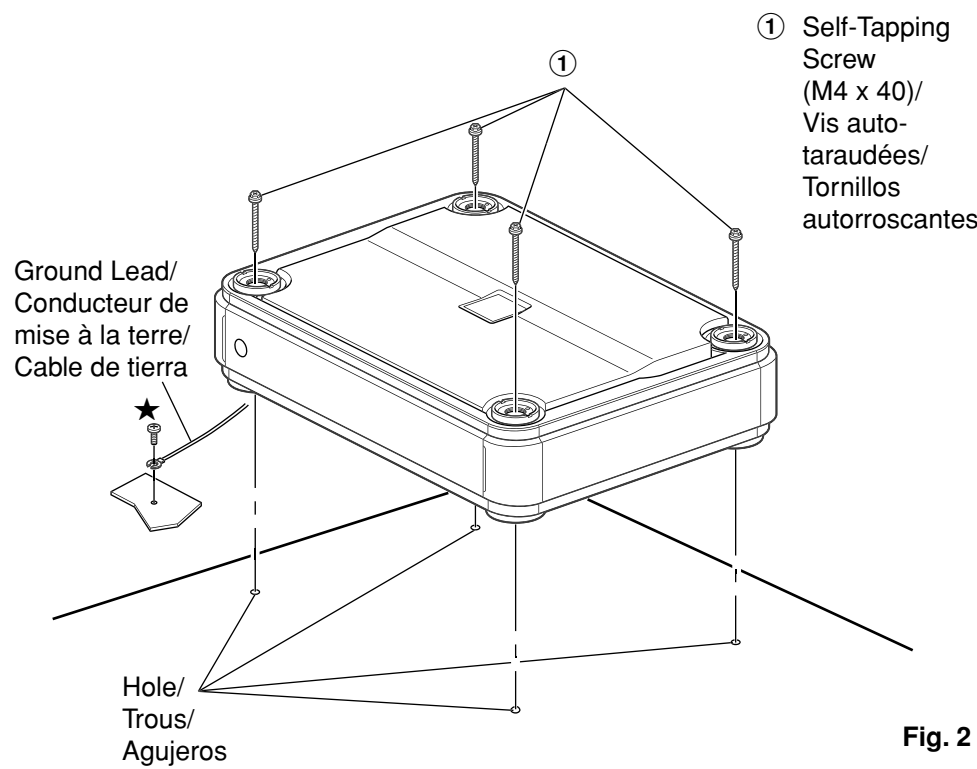

Fig. 2
- Fasten the unit down with the four self-tapping screws (M4 x 40, supplied). Refer to fig. 2.